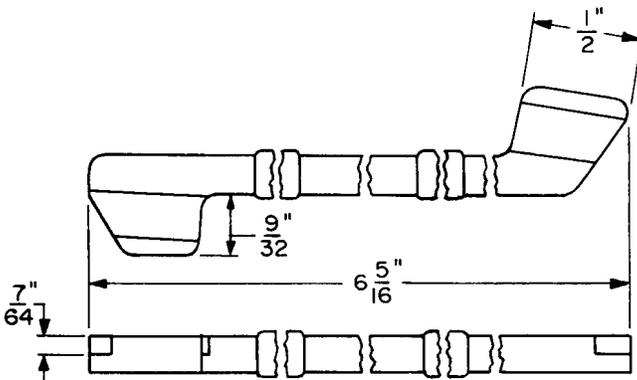

Fig. 12—546A Adjuster Tool
2.12 **546A:** The 546A tool (Fig. 12) is an adjuster used on 245- and 254-type relays.